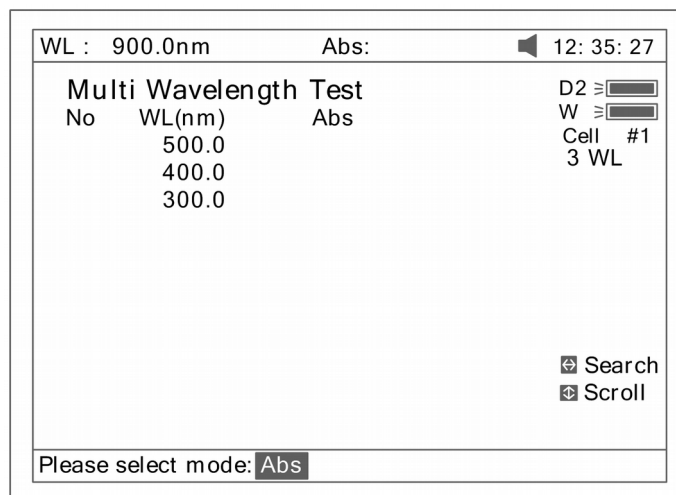

Fig 70
2. Press **(F2)** to select mode (Fig 70).